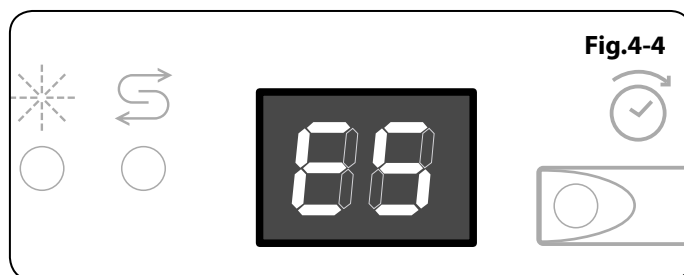

Fig.4-4
- When the time remaining indicator blinks 'E5' (**Fig.4-4**). Have you checked if the water is turned on and the hose is connected properly; the water supply to the house is on and has sufficient pressure; the water supply hose is crimped or bent; the filter for the water supply hose is clogged. The drain hose is too low.